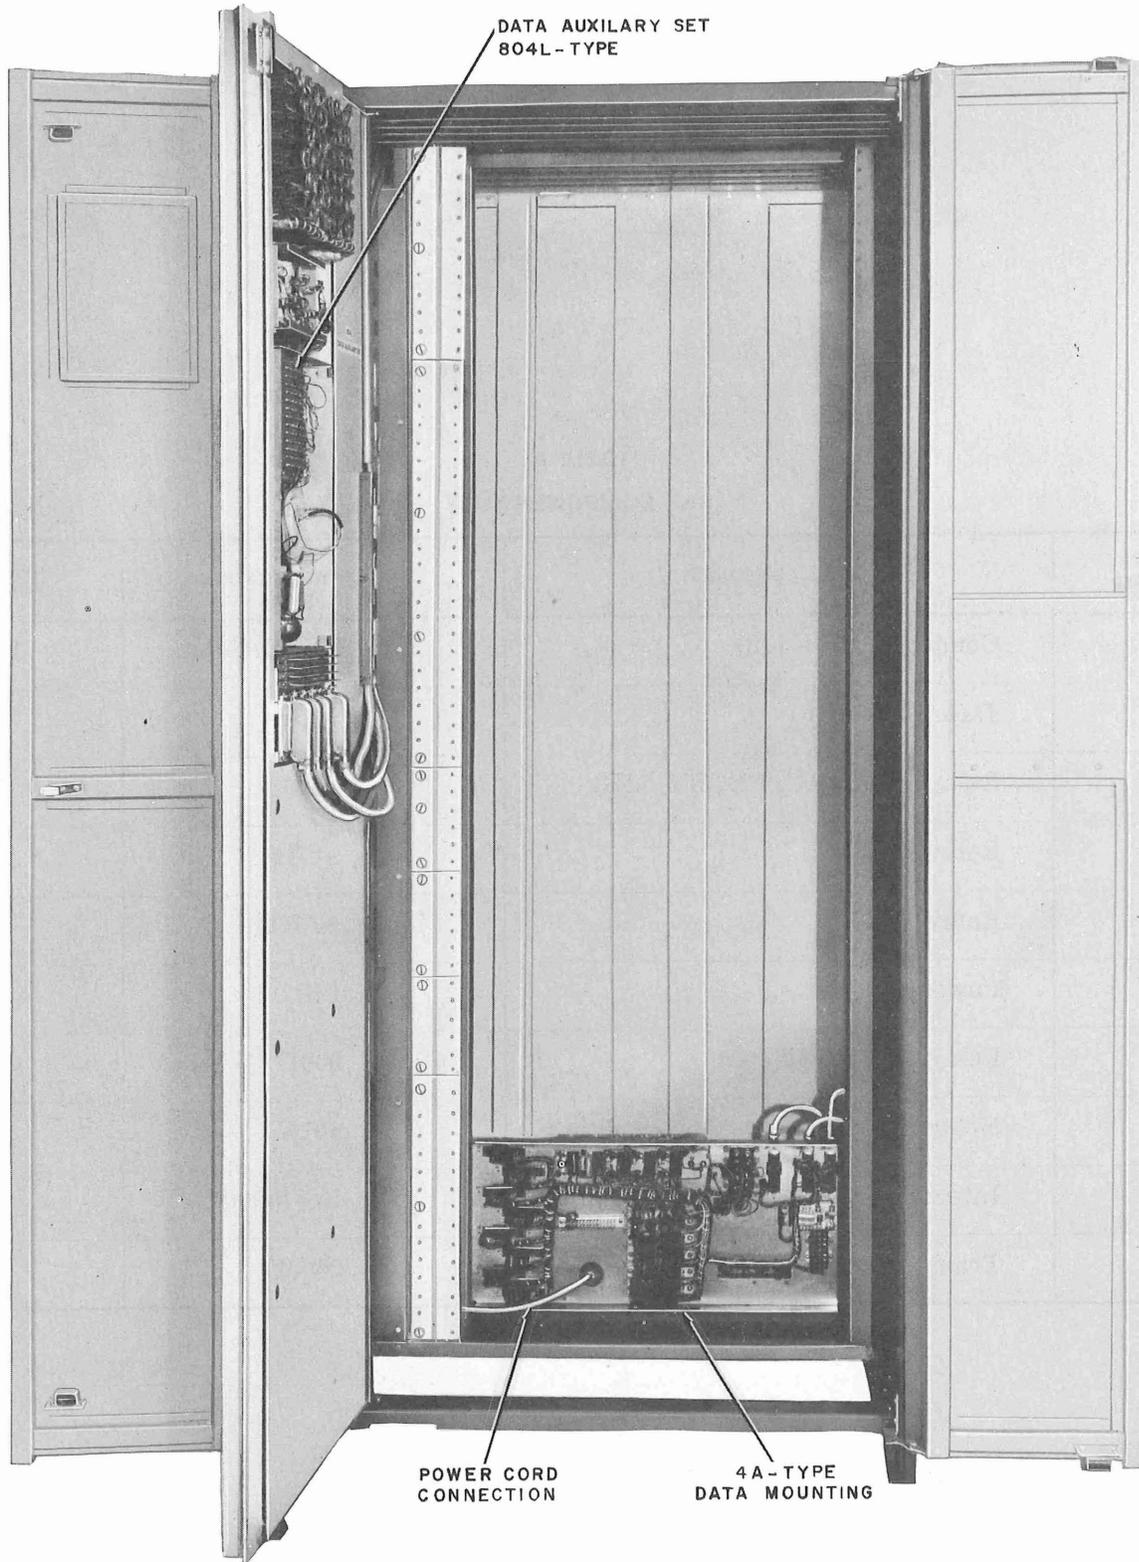

Fig. 2—4A Type Data Mounting Shown Installed in a KS-20093 L1 Cabinet
2.03 Figure 2 shows a 4A Type Data Mounting installed in the bottom of a KS-20093 L1 cabinet. The 4A requires 10 inches of vertical mounting space and a nominal 23-inch spacing of the rear mounting brackets.